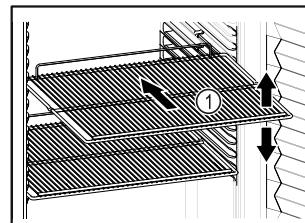

Fig. 60 Example illustration
- If there are adjustable shelves Fig. 60 (1), position them as required.